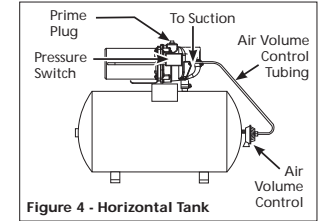

Figure 4 - Horizontal Tank
**SHALLOW WELL PUMP WITH CONVENTIONAL STORAGE TANK (FIGURES 4 & 5)**
1. Remove prime plug (Figure 4 or 5).